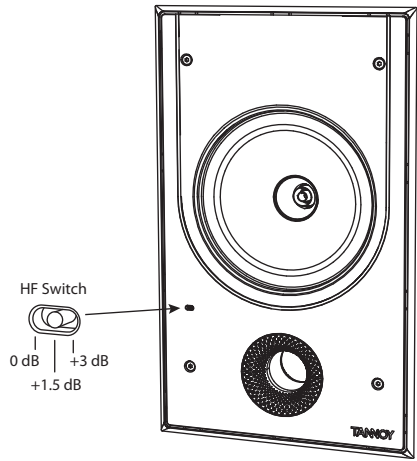

Fig. 4. HF Switch
2. The HF switch has three positions, with 0 dB being lat. Adjust as necessary to suit the room position and acoustic conditions (Fig. 4).